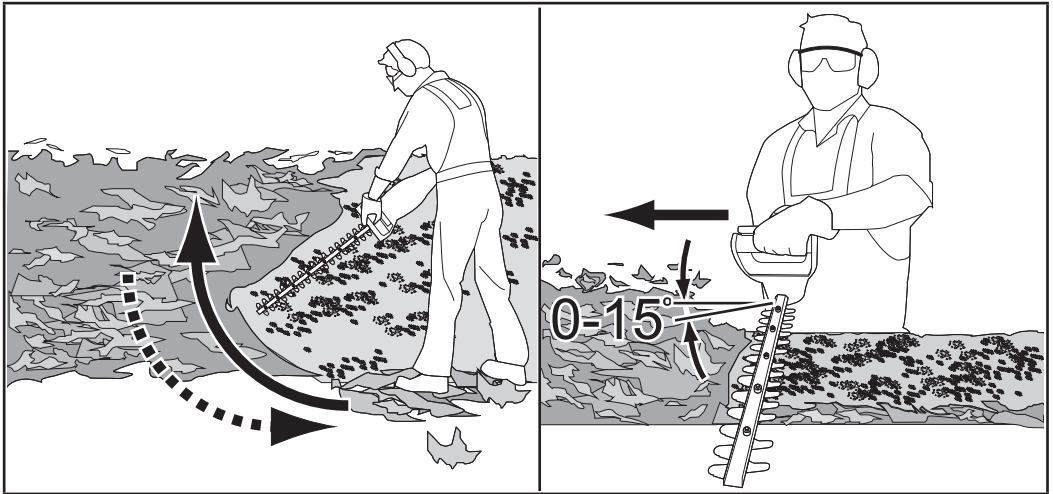

Fig. 6
- Always hold the machine firmly with both hands on front handle (1) and rear handle (4). Never operate this machine using only one hand.
- Do not rush and do not attempt to cut too much with one stroke of the blade (9).
- First cutting both sides from the bottom upwards to the top. This will prevent any of the cuttings falling into the path of the area still to be cut (Fig. 6).
- After cutting the sides proceed to the top. Try to keep the blade (9) angled at approximately  $15^\circ$  to the cutting surface (Fig. 6).
- When cutting wide hedges with the cutting area in sight move the blade (9) slightly through the cutting surface in a sweeping motion following the shape of the hedge or shrub. A slight tilt downwards of the cutting blade in the direction of motion is recommended for optimum cutting performance (Fig. 6).